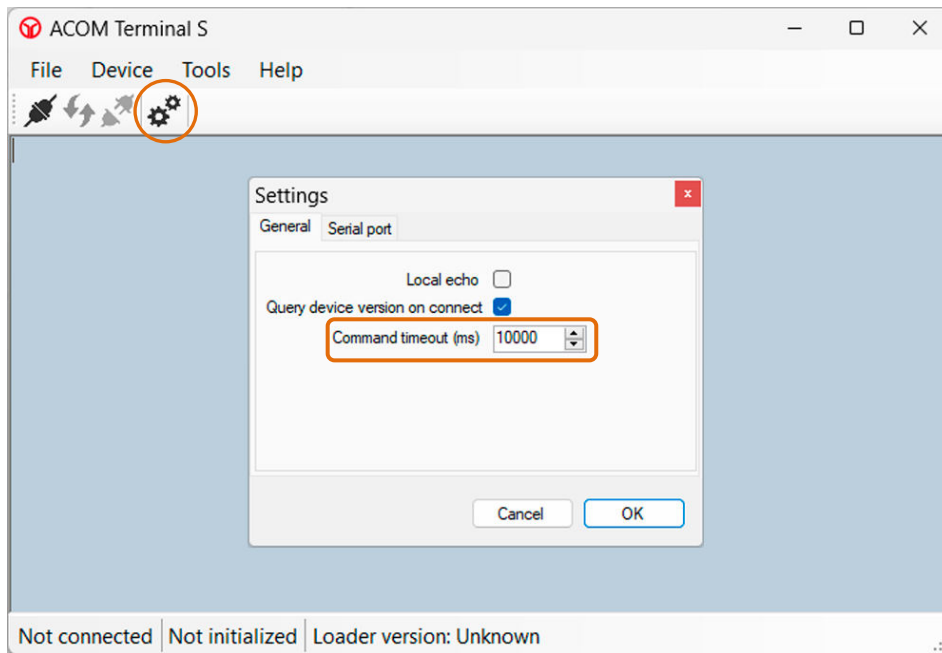

Figure 7-10 | Terminal S - Tools -> Setting -> General menu
- Open the **Settings** window by clicking on the **Settings** icon (two gears) or use **Tools -> Settings** from the menu bar. In the **Settings** window -> tab **General**, configure the settings as shown in Figure 7-10 | Terminal S - Tools -> Setting -> General menu: